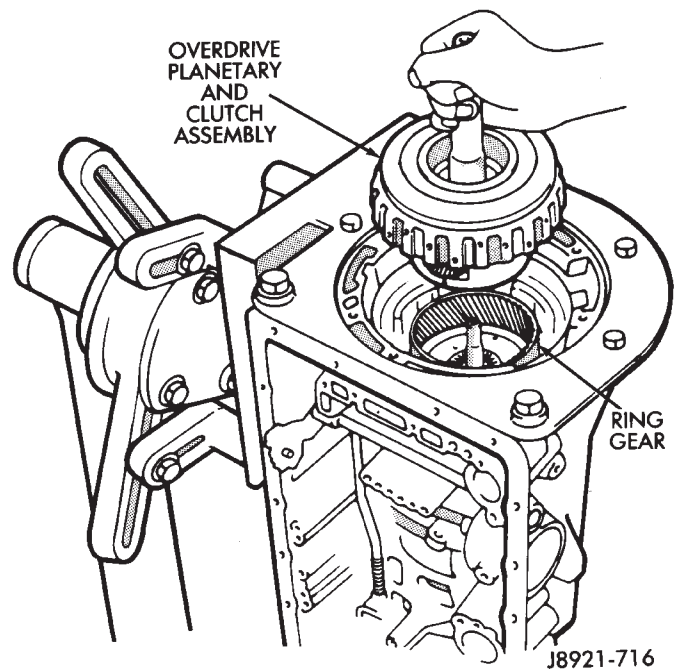

Fig. 49 Installing Overdrive Planetary And Clutch Assembly
- (61) Install assembled overdrive planetary gear and clutch (Fig. 49).